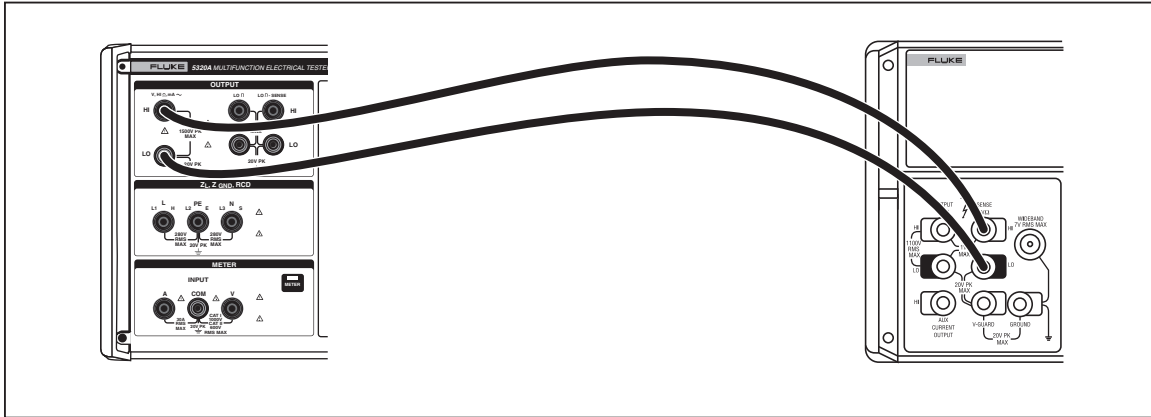

Figure 3-11. High Resistance Meter Calibration Connections – Part 2
17. Connect the multifunction calibrator to the Calibrator's OUTPUT HIΩ HI and LO terminals as shown in Figure 3-11.